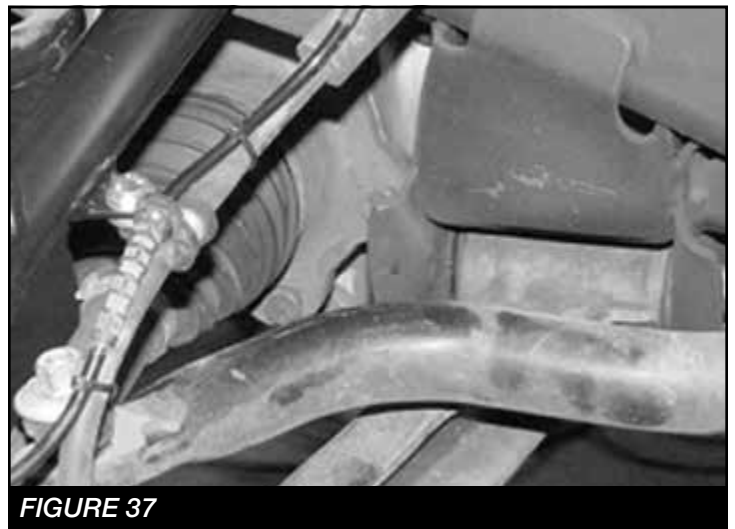

**FIGURE 35**
43. Attach the brakeline to the small tab on the control arm using the FTCLAMP, 1/4"-20 x 1" bolts, nuts and washers. **SEE FIGURE 35**